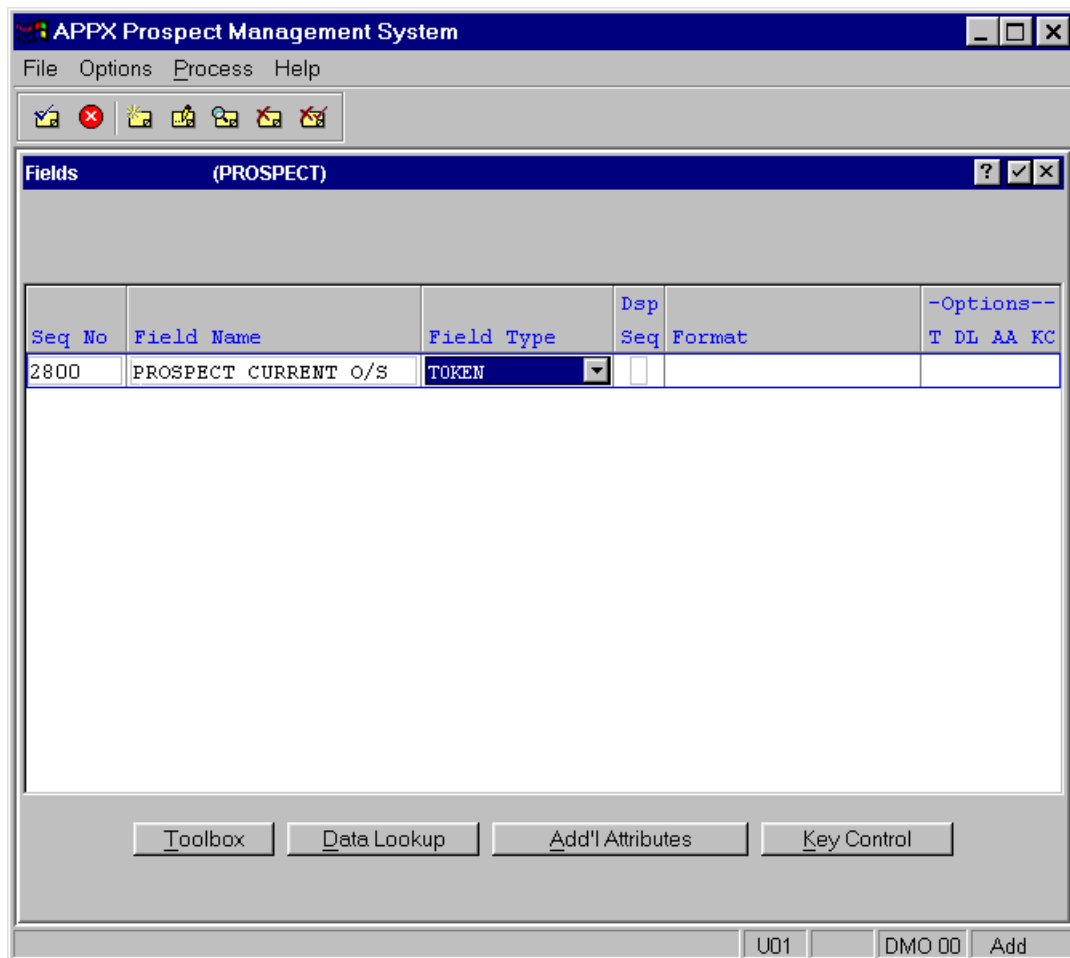

Figure E2.3 – Selecting the Field Type for a Field
- **LOGIC**, for fields with possible values of *yes (1)*, *no (0)*, or a blank to represent an unknown value.
- Select the ‘**TOKEN**’ field type as shown in *Figure E2.3*. A **TOKEN** field type will enable you to define a list of valid values for this field, from which the user will be able to select at runtime. Using the Token field type ensures consistency in the data entered by users and will facilitate efficient data entry.